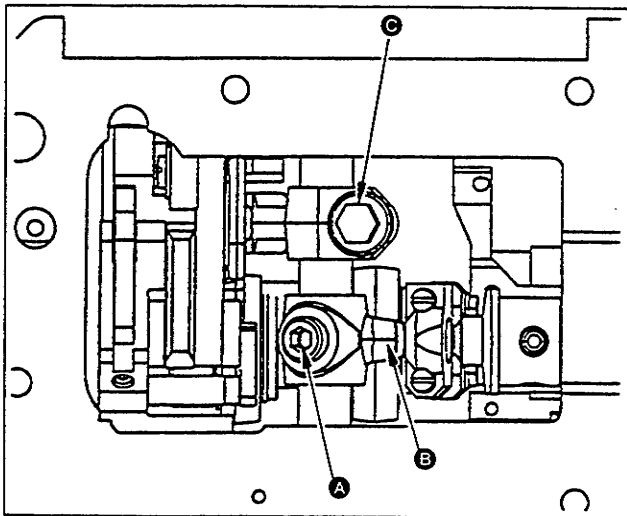

Fig. 7
- Loosen screw **A** (Fig. 7).